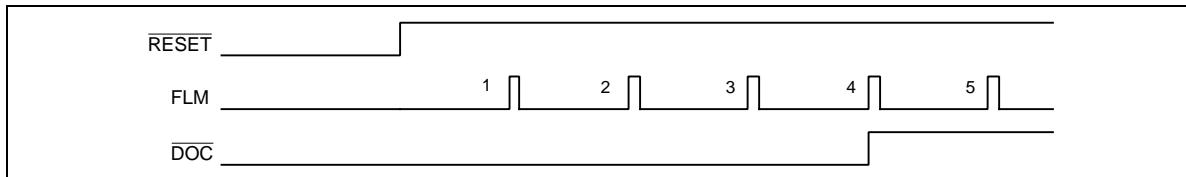

Figure 4 Automatic Display-off Control Function
- Auto Display-off Control:** This function prevents incorrect display after reset release. The display is turned off four frames following after reset release. In addition, the display off control signal shown in Figure 4 is output by pin $\overline{\text{DOC}}$. This pin is connected to pin $\overline{\text{DISPOFF}}$ of the HD66522.